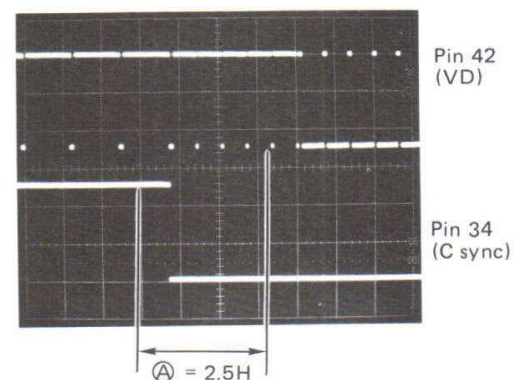

Fig. 4-2-6
- Trigger the oscilloscope at V rate with using TP2 (VS) on the Mother board.
- Adjust VR23 so that \textcircled{A} becomes 2.5H as shown in Fig.4-2-6.